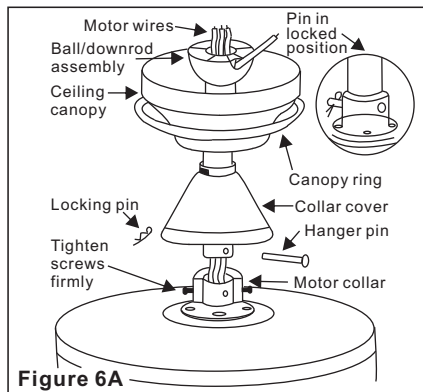

Figure 6A
8. Route wires exiting from the top of the fan motor through the collar cover and canopy ring. Make sure the slot openings of the canopy ring are on top. Route the wires through the canopy and then through the ball/downrod assembly (Figure 6A).
9. Align the holes at the bottom of the downrod with the holes in the collar on top of the motor housing (Figure 6A). Carefully insert the hanger pin through the holes in the collar and downrod. Be careful not to jam the pin against the wiring inside the hole ins locked position, as note din the circle inset of Figure 6A
10. Tighten two set screws on top of the fan motor firmly. (Figure 6A)